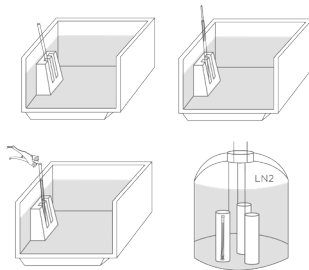

Figure 2. Cooling and sealing
- 7) Transfer the sealed straw to the Dewar filled with LN₂. (See Figure 2).